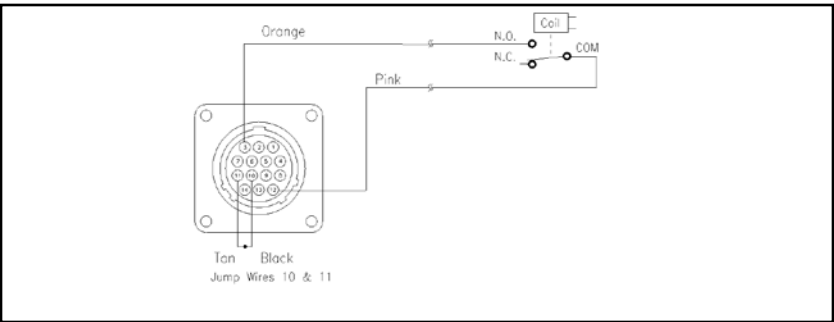

Figure 7-5. Relay Contacts
- a. Verify the orientation (as shown in Figure 7-5), the notch should be on the side closest to the 50-pin ribbon cable connection).